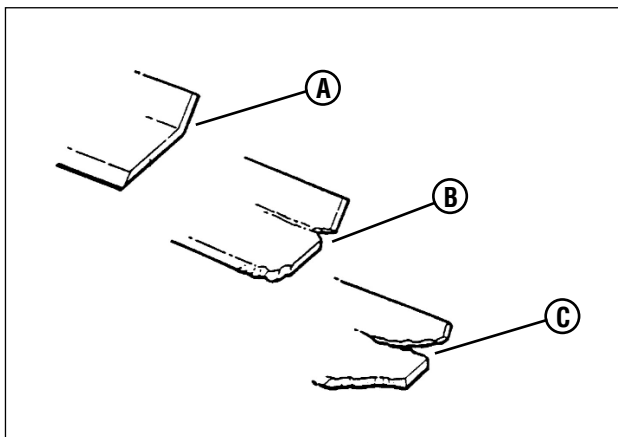

Figure 42: Mower blade wear limits
1. Inspect the blade frequently for signs of excessive wear or damage (**Figure 42**):
- (A) New blade;
- (B) Wear limit (notch starts);
- (C) Dangerous condition - do not use on mower! Replace with new blade.
5. Inspect the condition of the blade (**Figure 42**).